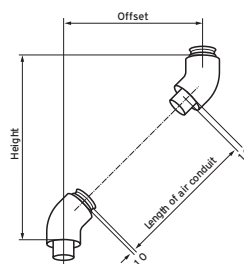

Fig. 6.4: Installation of 45° bends
- When using elbows for long flue runs in a corner follow fig. 6.4 and fig. 6.5 to avoid obstructions.
When using 87° elbow install with a slope of 3° between wall and air-flue pipe (fig. 6.4) or use 2 x 45° elbows (fig. 6.5).
Note: The elbows must be correctly aligned to avoid undue stress on the joints and risk of leakage. The elbow fitted to the top of the boiler (1) should be twisted by 3° to ensure that the second 87° elbow (2) exits the wall perpendicular. When using 87° elbow install with a slope of 3° between wall and air-flue pipe (fig. 6.4) or use 2 x 45° elbows (fig. 6.5).